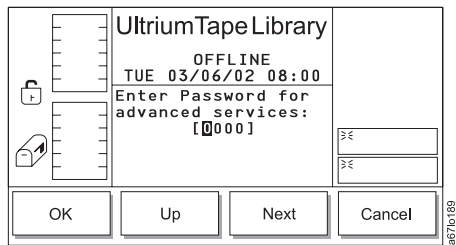

Figure 4-133. Enter Password Dialog
- **Instruction for service personnel only:** To reenter the library’s serial number after you have replaced the main controller board, press the button below the **Normal/Advanced** softkey. The screen refreshes and highlights the **ADVANCED** service type. The Enter Password Dialog displays (see Figure 4-133 on page 4-81).